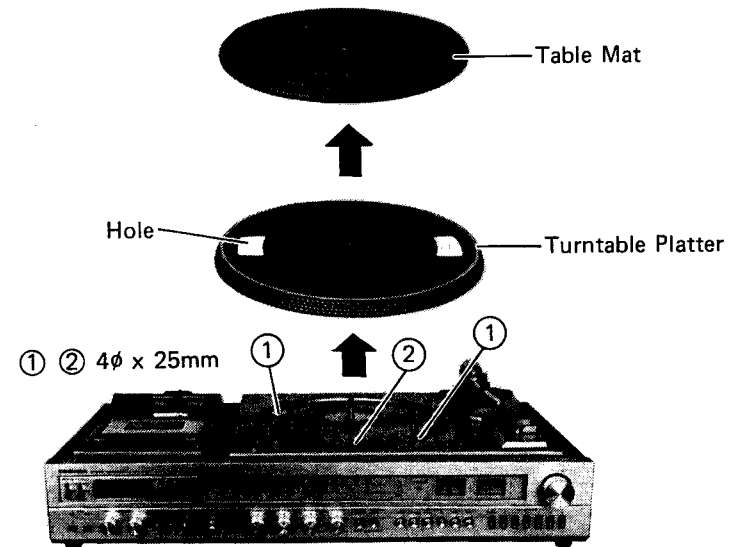

Figure 6.
1. Remove the turntable, cassette recorder panel and cabinet. See figure 6, 7 and 8.